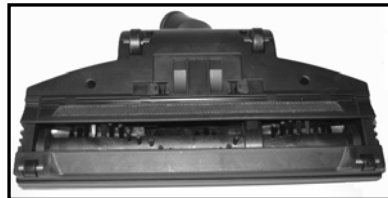

Fig. 12
2. Flip the turbo brush over so that the bottom of it is facing upwards. (Fig. 12)